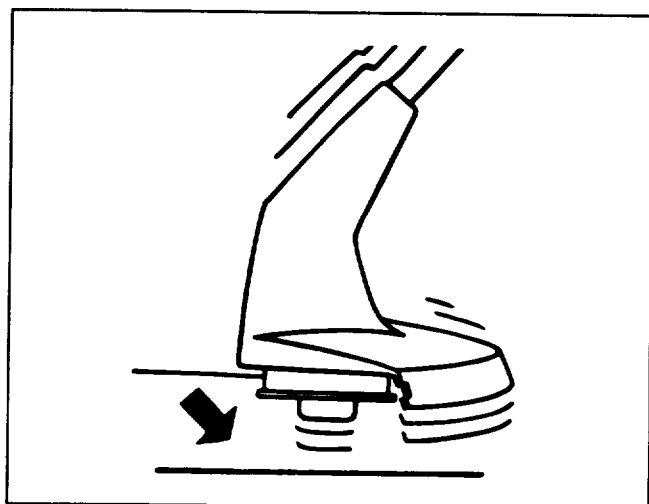

Figure 13
1. To lengthen line, firmly tap spool on the ground while the motor continues to run. The line will be fed from the spool and cut off to the proper length by the cutting knife attached to the shield (Fig. 13).